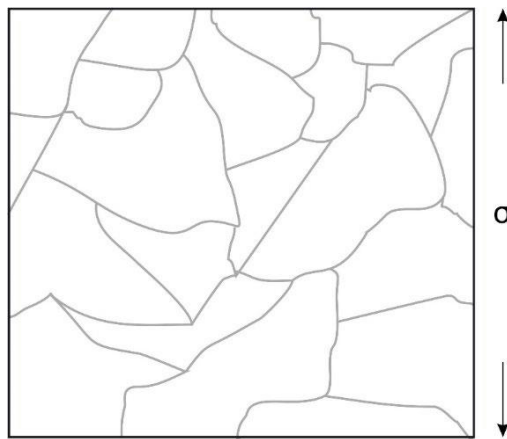

Figure 5: Grain microstructure of an AISI 304 steel under tensile stresses
- b) Figure 5 shows the grain microstructure of the steel AISI 304. The sample is exposed to tensile stresses. Indicate where you would expect a crack path based on the information given above. Name the cracking mechanism.